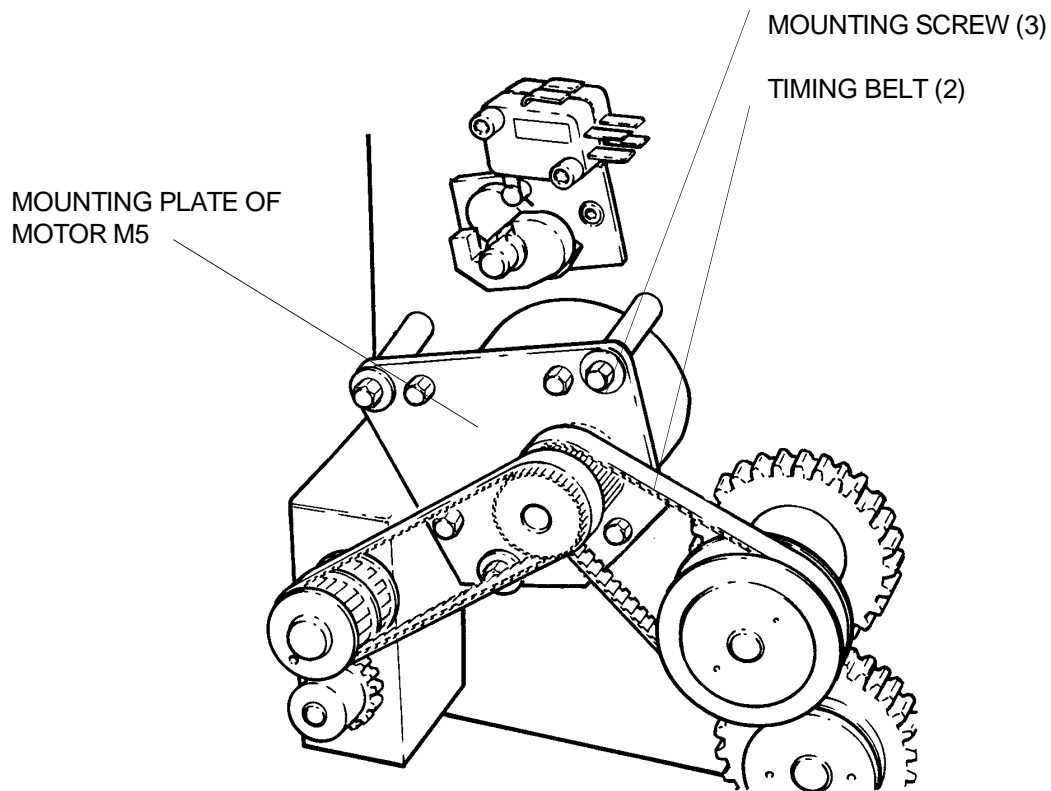

figure 1
- 4** Remove the MOUNTING SCREWS of MOTOR M5. See figure 1.
- 5** Remove the TIMING BELTS. See figure 1.
- 11** Reinstall the MOTOR M5. See figure 1. Do not tighten the SCREWS.